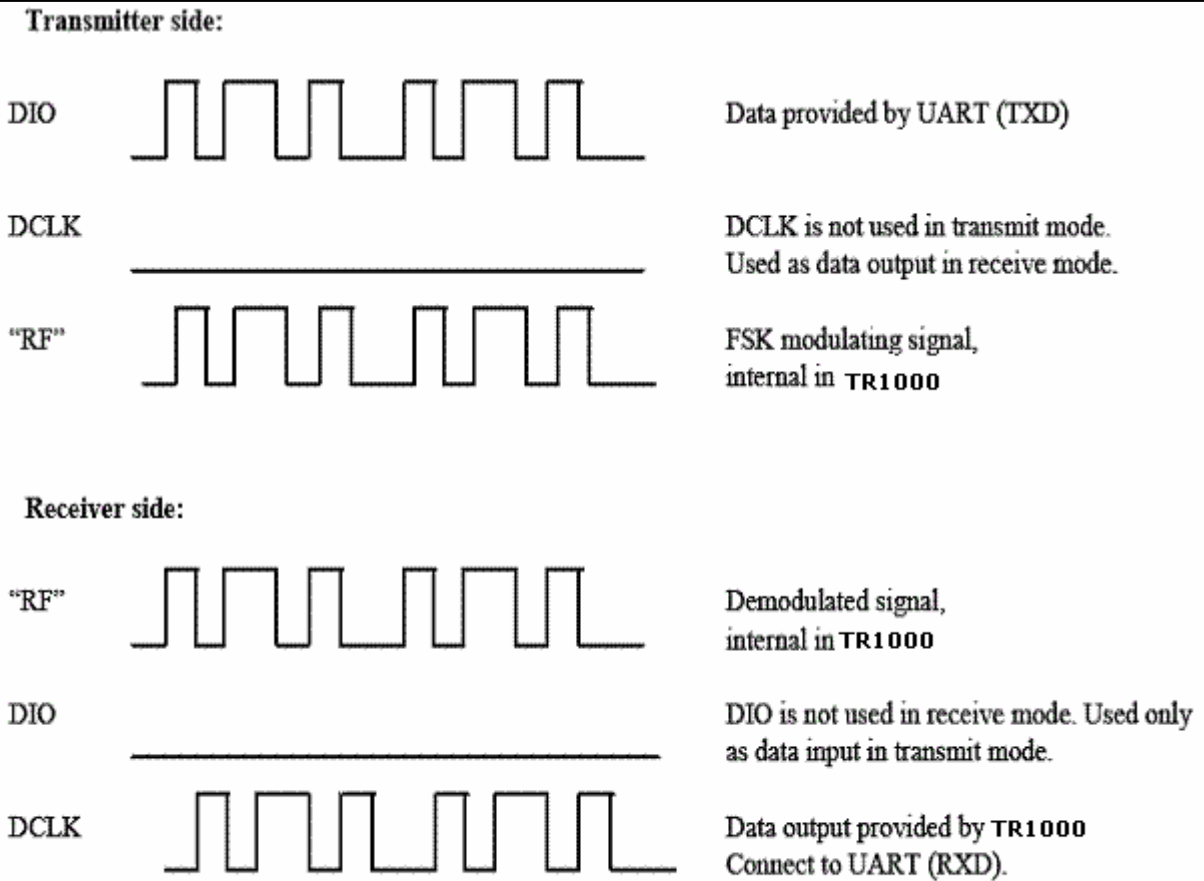

Figure 9. Transparent Asynchronous UART mode
*Transparent Asynchronous UART mode.* In transmit mode DIO is used as data input. The data is modulated at RF without synchronisation or encoding. In receive mode the raw data signal from the demodulator is sent to the output. No synchronisation or decoding of the signal is done in **TR1000** and should be done by the interfacing circuit. The DCLK pin is used as data output in this mode. Data rates in the range from 0.6 to 76.8 kBaud can be used. For 38.4 and 76.8 kBaud a crystal frequency of 14.7456 MHz must be used. See Figure 9.